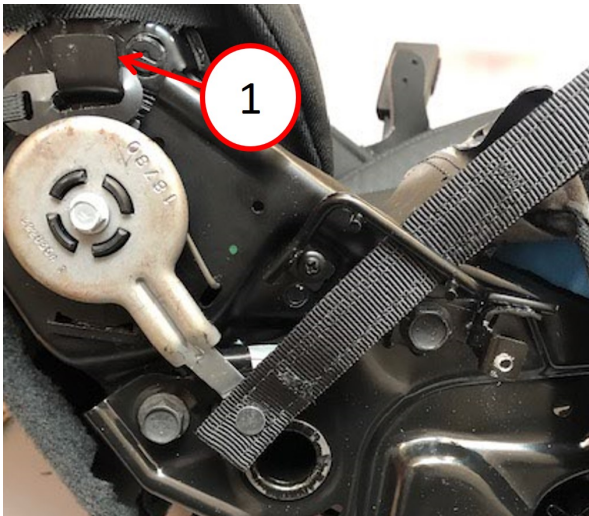
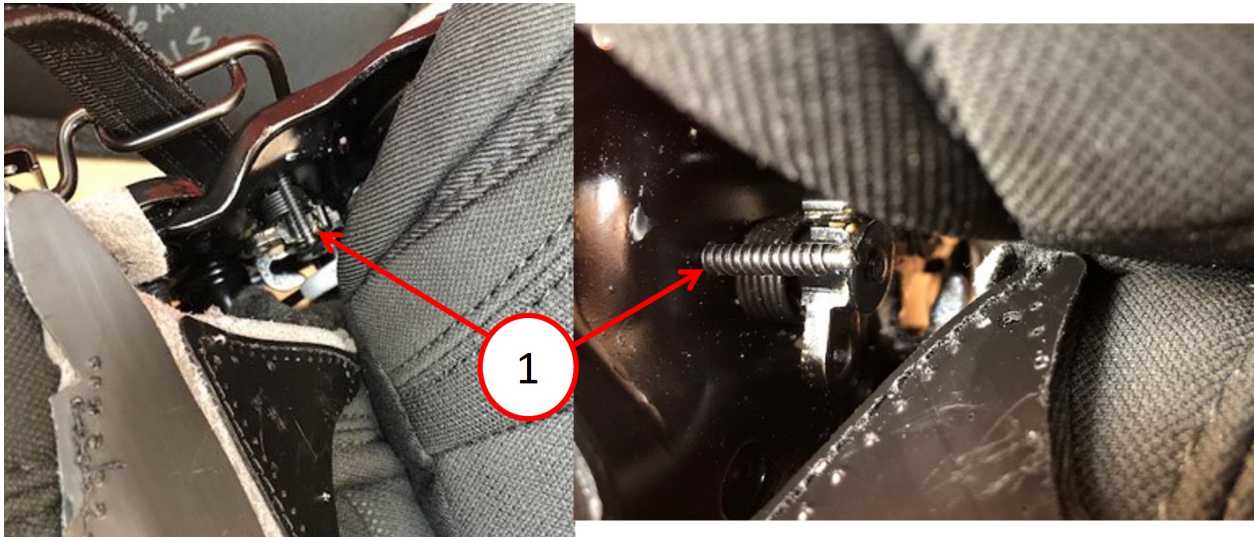

Fig. 1
Fig. 2
3. Disengage the cushion trim stiffener from the metal tab (Fig. 1) , to expose the interlock mechanism (Fig. 2) through the biteline in the front of the seatback.
19. Install the cushion trim stiffener on the metal tab (Fig. 1) and (Fig. 2) .